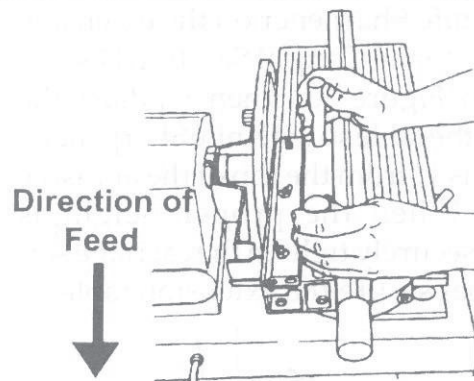

Figure 16
17. When the pass is completed, remove the Knife Sharpener from the extension table, as shown in Figure 16.